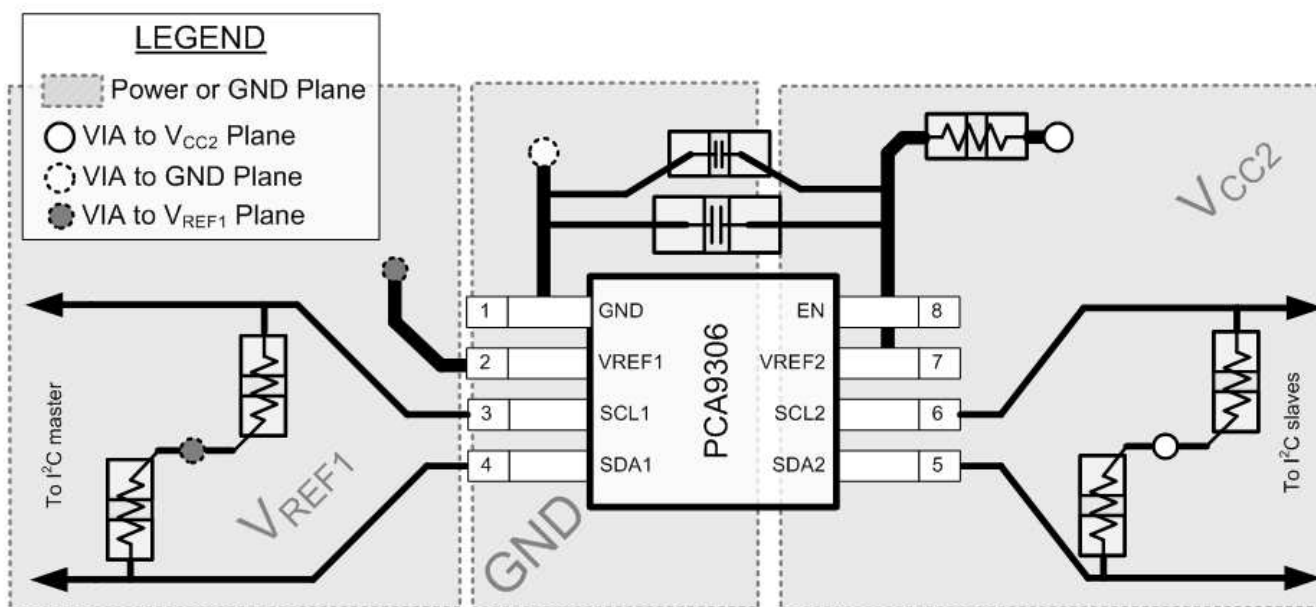

Figure 20. PCA9306 Layout Example
In all PCB layouts, it is a best practice to avoid right angles in signal traces, to fan out signal traces away from each other on leaving the vicinity of an integrated circuit (IC), and to use thicker trace widths to carry higher amounts of current that commonly pass through power and ground traces. The 100-pF filter capacitor should be placed as close to  $V_{REF2}$  as possible. A larger decoupling capacitor can also be used, but a longer time constant of two capacitors and the 200-k $\Omega$  resistor results in longer turnon and turnoff times for the PCA9306 device. These best practices are shown in Figure 20.
For the layout example provided in Figure 20, it would be possible to fabricate a PCB with only two layers by using the top layer for signal routing and the bottom layer as a split plane for power ( $V_{CC}$ ) and ground (GND). However, a four-layer board is preferable for boards with higher-density signal routing. On a four-layer PCB, it is common to route signals on the top and bottom layer, dedicate one internal layer to a ground plane, and dedicate the other internal layer to a power plane. In a board layout using planes or split planes for power and ground, vias are placed directly next to the surface-mount component pad, which must attach to  $V_{CC}$  or GND, and the via is connected electrically to the internal layer or the other side of the board. Vias are also used when a signal trace must be routed to the opposite side of the board, but this technique is not demonstrated in Figure 20.